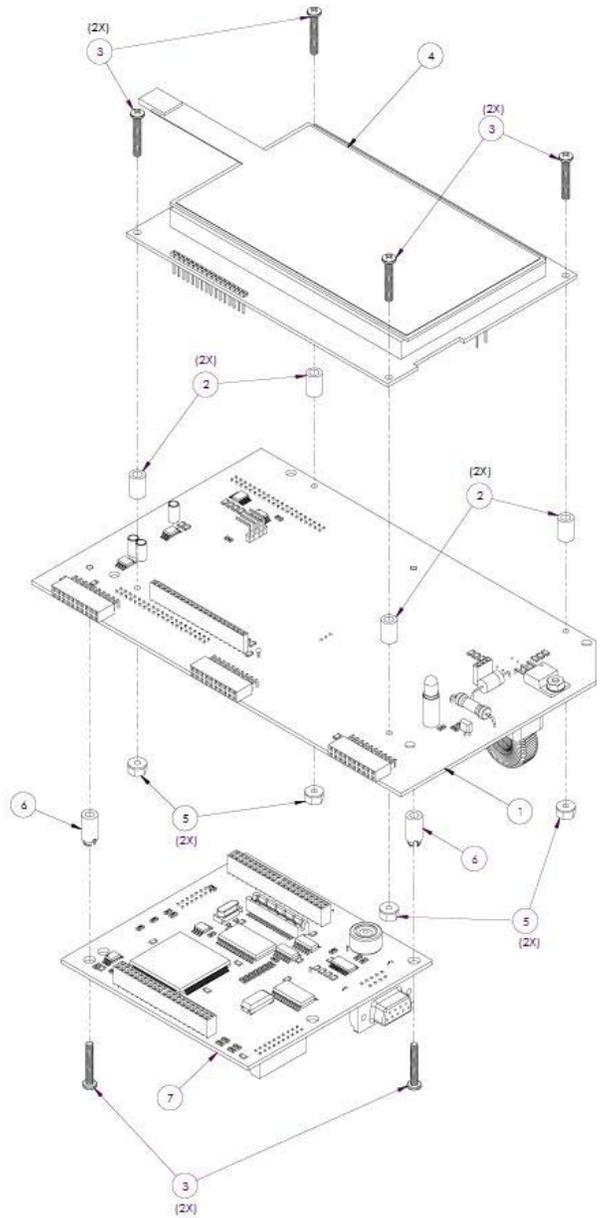

Figure 2. AK600 Controller Three-Board Set
3. Disconnect the power/data, ribbon cable from the AK600 Motherboard (Item 7 of Figure 2).
4. If Sensor boards are attached to the Pool #1, #2, or #3 slots of the AK200 Interface board (Item 1 of Figure 2), then loosen and remove the pairs of nuts that attach each Sensor board to the lid/door enclosure but do not yet remove sensor boards.
- a. Optional: If the AK600 Motherboard is installed with two screws at opposite corners on the board, then use a Phillips driver to remove the two screws (Item 3 of Figure 2) that attach the AK600 Motherboard to the AK200 Interface board (Item 1 of Figure 2).
- a. To remove the Display Touchscreen board from the AK200 Interface board, remove the four sets of nuts (Item 5 of Figure 2), spacers (Item 2 of Figure 2), and screws (Item 3 of Figure 2) between the AK200 Interface board and the Display Touchscreen board.
- a. Insert the two, self-retaining spacers (Item 6 of Figure 2) on the AK600 Motherboard.
- c. Optional: Insert two, $\frac{3}{4}$ -inch screws on the opposite corners of the AK600 Motherboard (See Figure 2), and then fasten the screws with a Phillips driver.